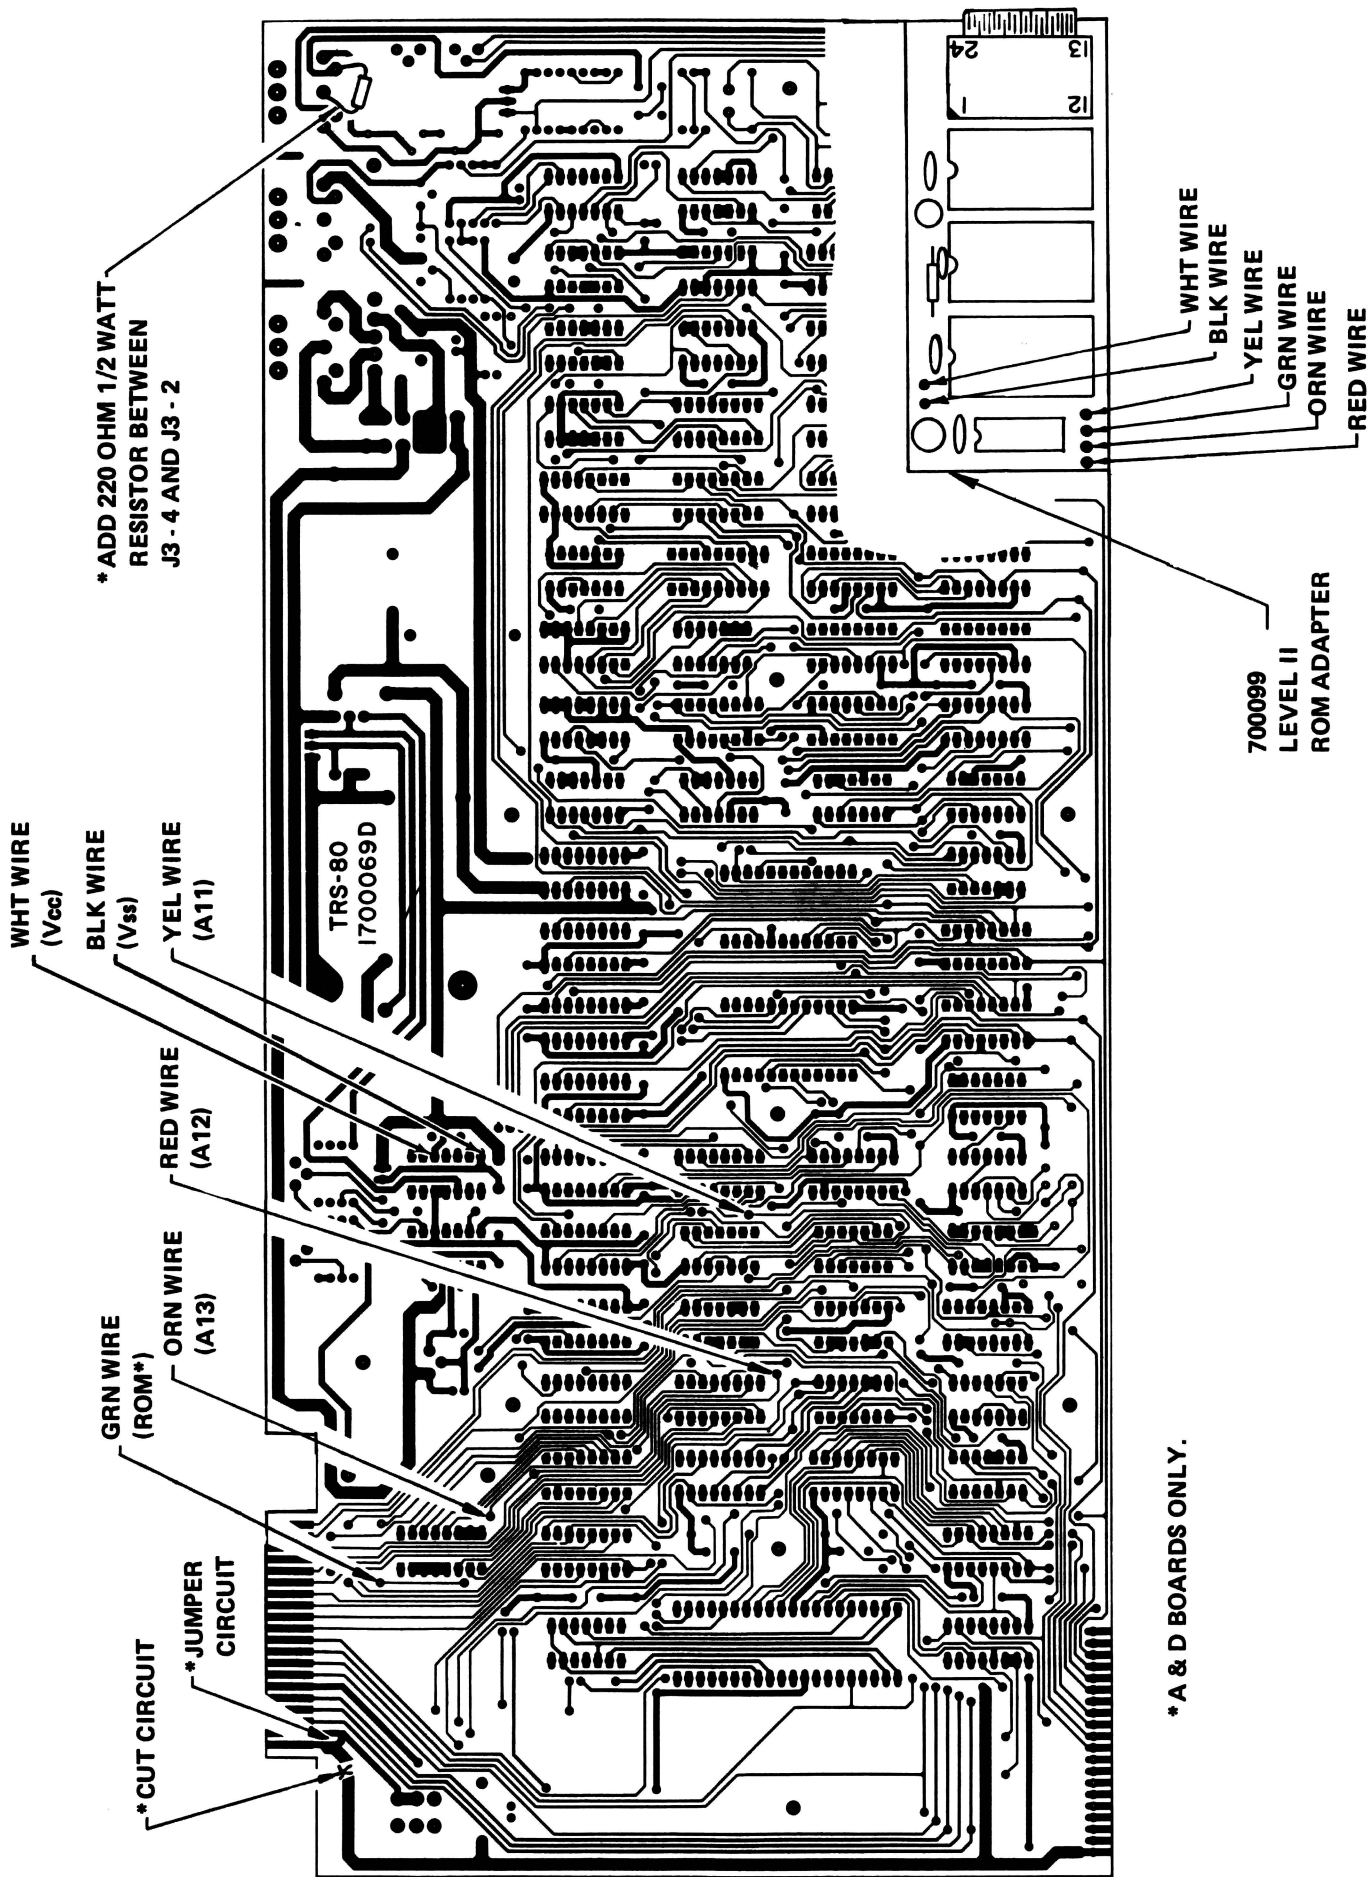

FIGURE 4. LOGIC PRINTED CIRCUIT BOARD (BOTTOM VIEW).
11. Connect and solder the 6-Conductor Ribbon Cable as shown in Figure 4.